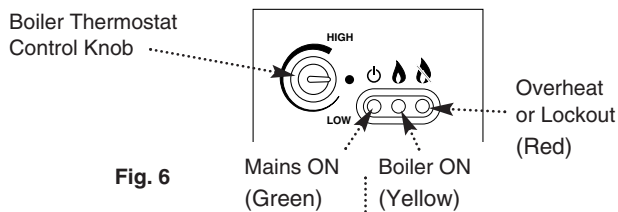

Fig. 6
2. The lockout indicator light will be either flashing or permanently illuminated and the boiler will need resetting (Fig. 6).